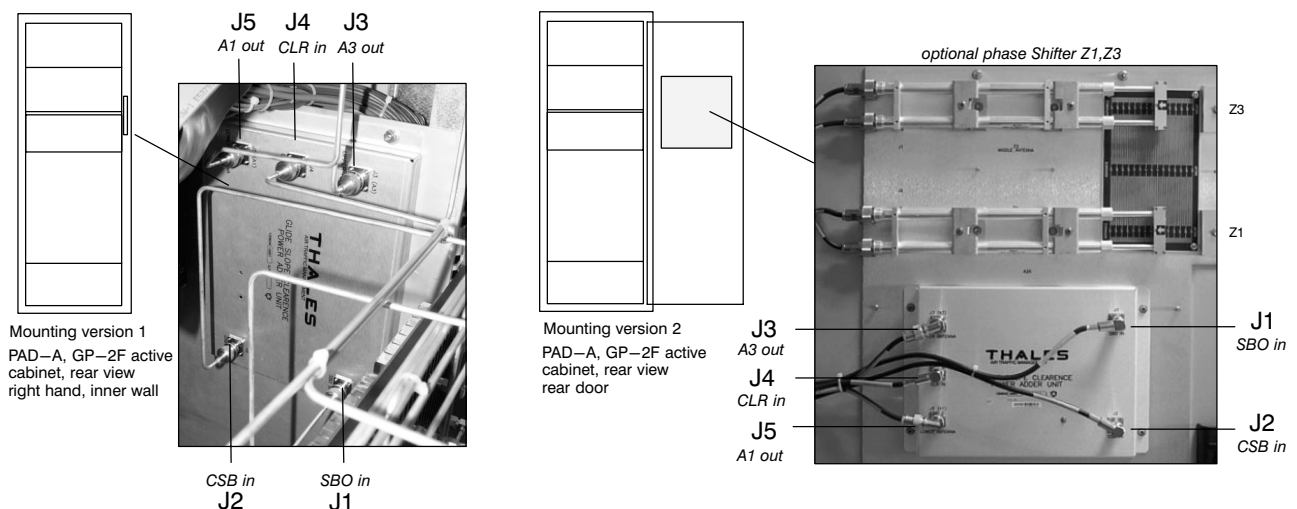

Fig. 5—1 Power Adder PAD-A, GP-2F active, connectors
- f) Adjust 'CRS CSB2 DDM' value depending on the "Forward Slope" ( $-46.7\%$  ( $90 > 150$  Hz) on DDM instrument for  $0^\circ$  "Forward Slope"), see table and graph in Fig. 5–8.
- Remove clearance supply cable at J4, power adder (see Fig. 5—1), and terminate cable with 50 ohms/10 W.
- Remove CRS CSB 1 (A1) supply cable at input J2, power adder (Fig. 5—1). Terminate cable with 50 ohms/10 W.